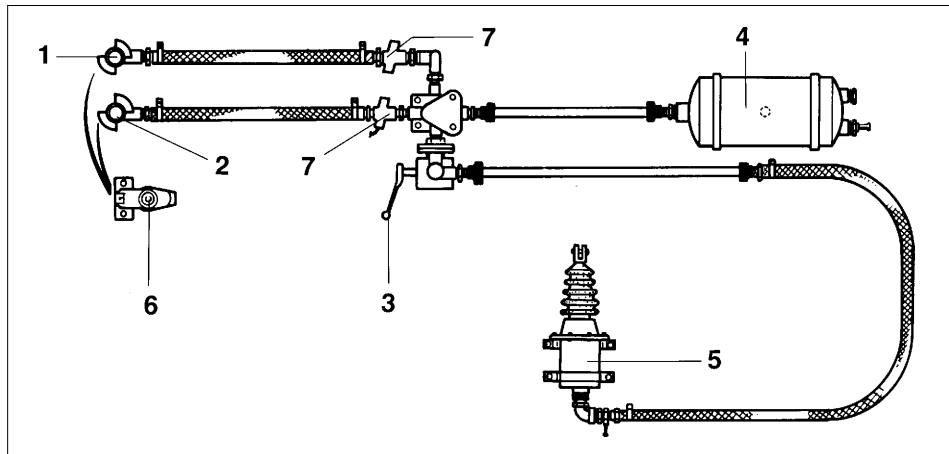

Fig. 17.6
The following checking and maintenance plan is applicable to all vehicles. The components of the air brake on your bulk precision broadcaster may be different from that shown in figure 17.6. If you have any queries, consult a specialist workshop, the manufacturer of the air brake, or the manufacturer's sales organization.
2. Check whether the hose couplings are clean before coupling and ensure that they engage correctly! The hose coupling (fig. 17.6/1) for the brake line has a yellow marking. The hose coupling (fig. 17.6/2) for the supply line has a red marking.
4. Check the position of the brake pressure regulator lever (fig. 17.6/3)!
5. If necessary, drain the compressed-air container (fig. 17.6/4)!
7. Check the piston stroke of the braking ram! Only two thirds of the braking ram's stroke (fig. 17.6/5) may be used. If this is not the case, adjust the brake! Replace damaged dust covers!
8. After uncoupling, close the hose plugs and attach them to the dummy sockets (fig. 17.6/6) on the ZG-B!
1. Check and clean the pipe line filters (fig. 17.6/7)!